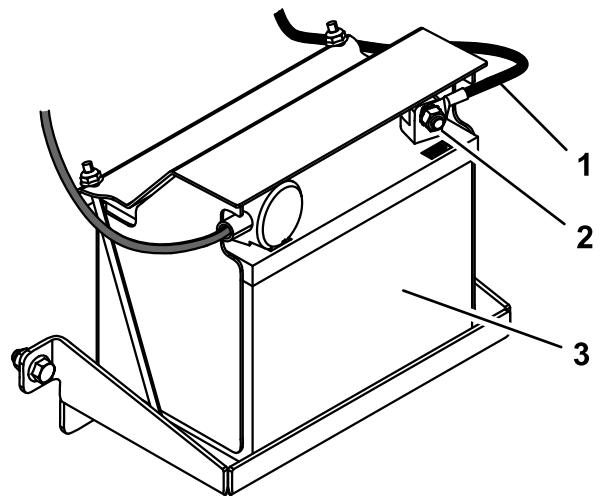

Figure 5
- Connect the negative battery cable to the negative (-) battery post using the bolt and nut attached to the cable (Figure 5).